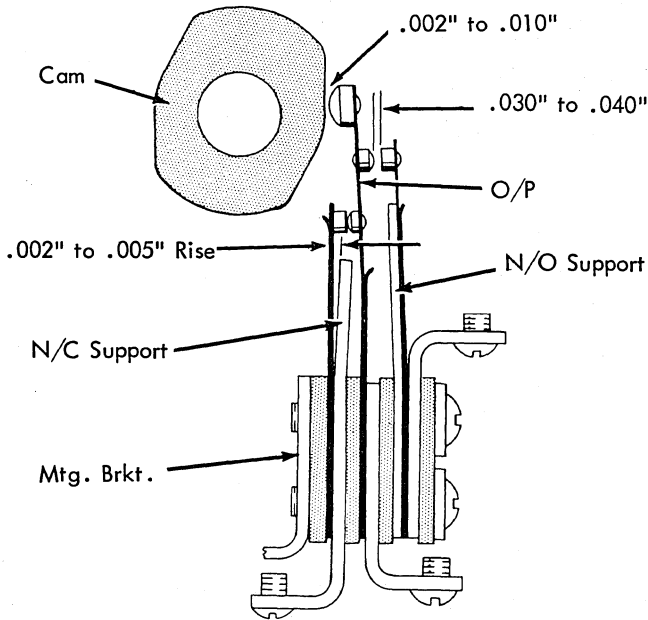

FIGURE 5-4. Print Feedback Contact C2
- Form the N/C support so that the O/P's lift the N/C contact .002" to .005" from the N/C support (Figure 5-4).
- Position the contact mounting bracket so that the O/P clears the cam (at the low point .002" to .010" (Figure 5-4).